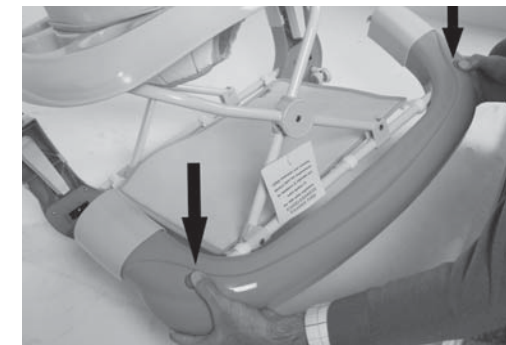

Fig. 20
3. Simultaneously press both buttons located at each end of lower frame and turn upward 90 degrees until it clicks in place. Fig. 20